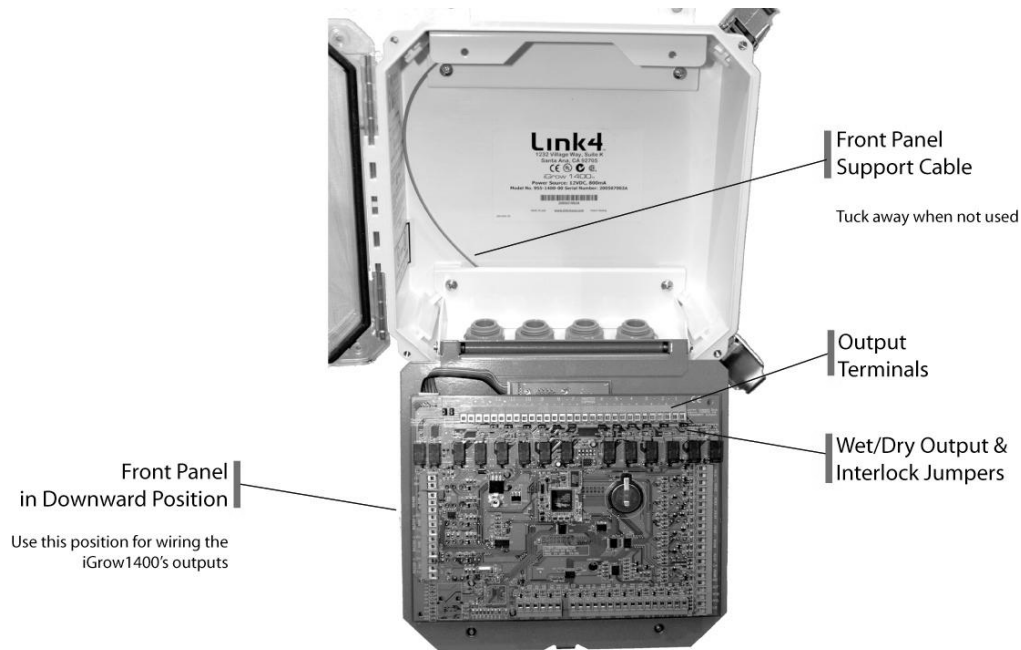
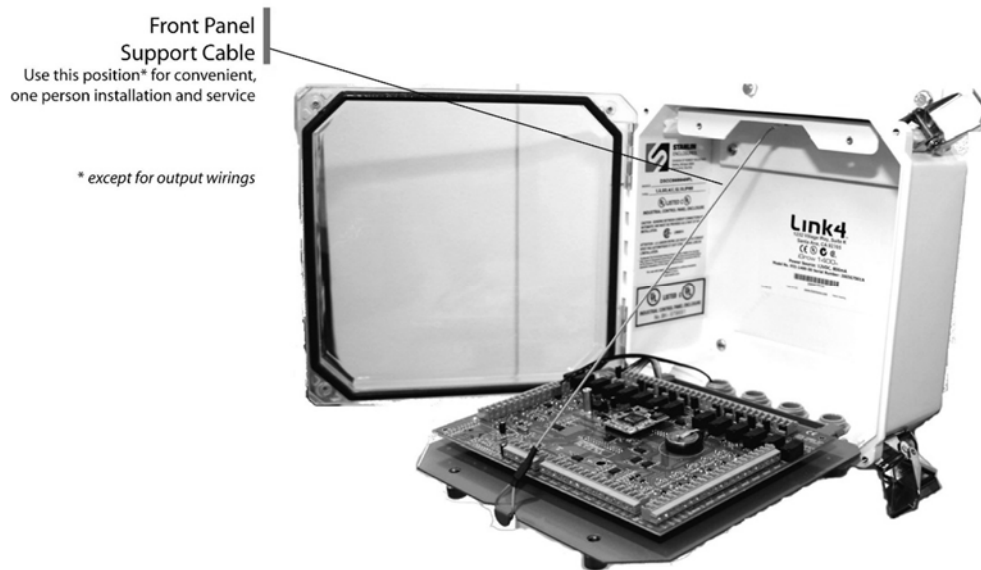

Figure 4.4 Full Open View of iGrow 1400™
Figure 4.5 Front Panel, in the 90 deg. position
3. The front panel has a unique design that allows it to swing downward. It can be stopped at two positions: fully downward 180 deg or at 90 deg. using the front panel support cable. This cable should always be tucked away when it is not being used. The hinged design allows for easy accessibility to the inside of the iGrow 1400™ for service and installation procedures and a kink free cable management when the panel is closed (see Figure 4.4 and Figure 4.5).
4. Lower the front panel to the 90 deg position by using the tucked away front panel support cable. See figure 4.5.
1. First, open up the front panel to the 90 deg. position, as shown in Figure 4.5. Make sure the cable supports the front panel securely.
1. Open up the front panel to the 90 deg. position, as shown in Figure 4.5. Make sure the cable supports the front panel securely.